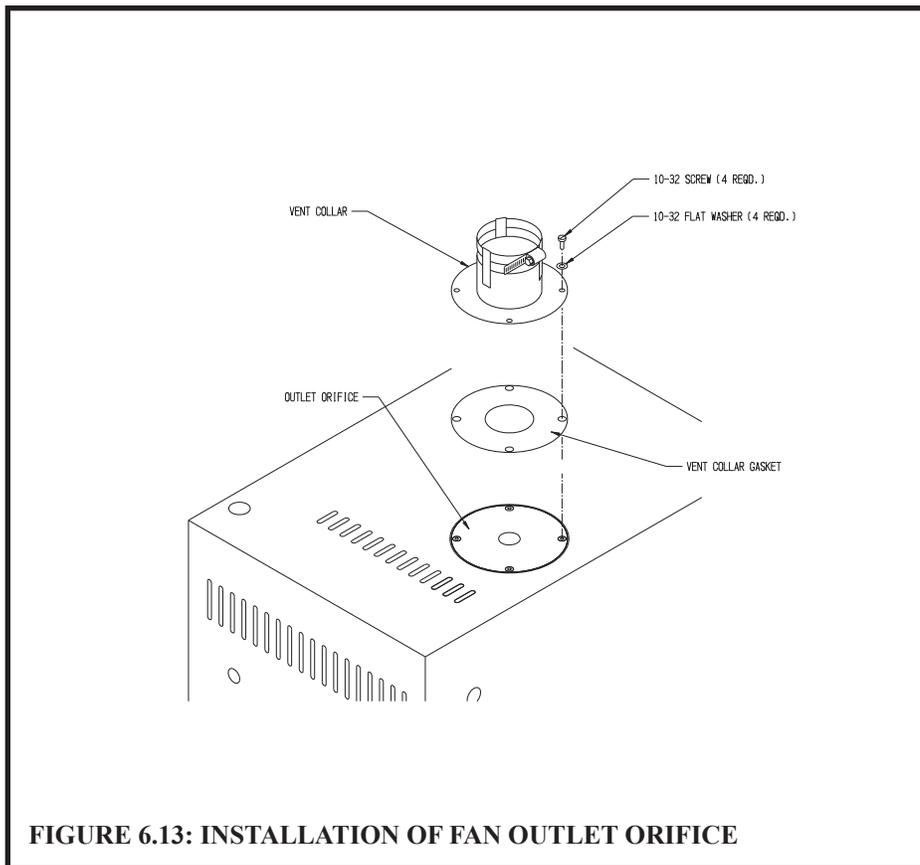

FIGURE 6.13: INSTALLATION OF FAN OUTLET ORIFICE
- 2) Vent Collar Installation – The vent collar is shipped loose in the accessory bag along with a collar gasket and four 10-32 mounting screws. Mount the collar and orifice as shown in Figure 6.13. If desired, the first piece of exhaust pipe can be connected to the collar before mounting the collar on the boiler.